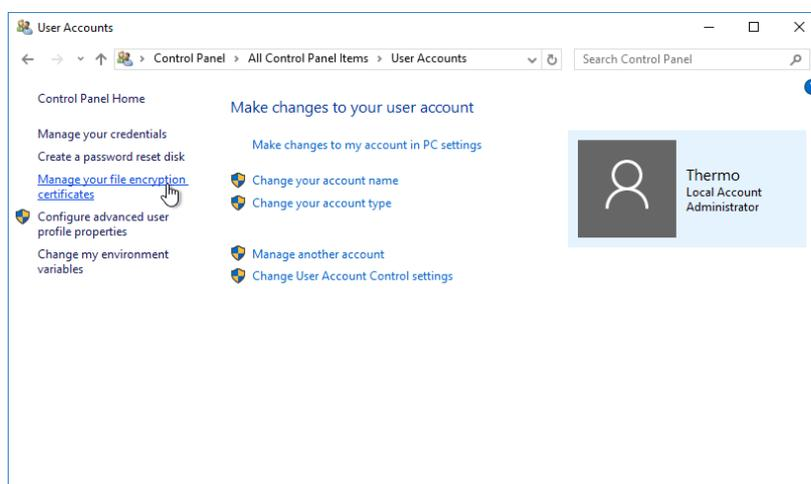

Figure 2-23. Make changes to your account
2. Select **Manage your file encryption certificate**, see Figure 2-23.